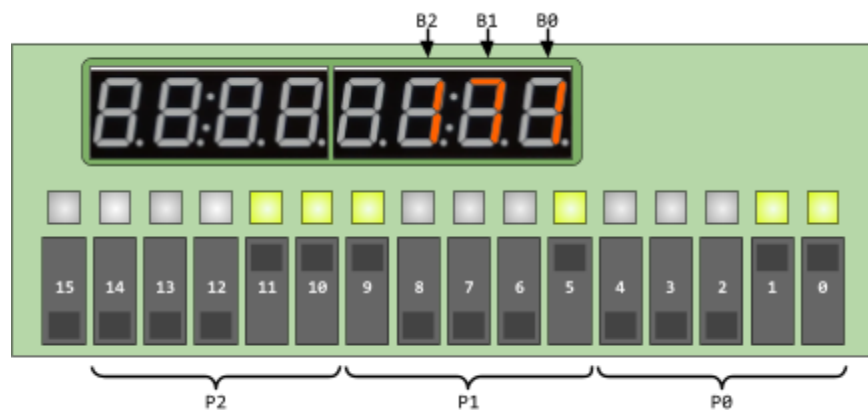

Figure 3. Input/Output Configuration for Part 3
In the final part of the lab assignment, you will instantiate your POSTNET module to display three POSTNET values on the seven-segment display. Switches SW[4]-SW[0] will encode a 5-bit POSTNET input, P0, which will be displayed as the 4-bit binary number B0 on the seven-segment display. Switches SW[9]-SW[5] will encode a POSTNET input, P1, which will be displayed as the 4-bit binary number B1 on the seven-segment display. Switches SW[14]-SW[10] will encode a POSTNET input, P2, which will be displayed as the 4-bit binary number B2 on the seven-segment display. This configuration is shown in Figure 3.
8. Instantiate a POSTNET module for POSTNET digit P0. Connect the module's inputs to the switches shown in Figure 3 (SW[4]-SW[0]). Connect the module's outputs to a set of named wires (e.g., a0, b0, c0, d0).